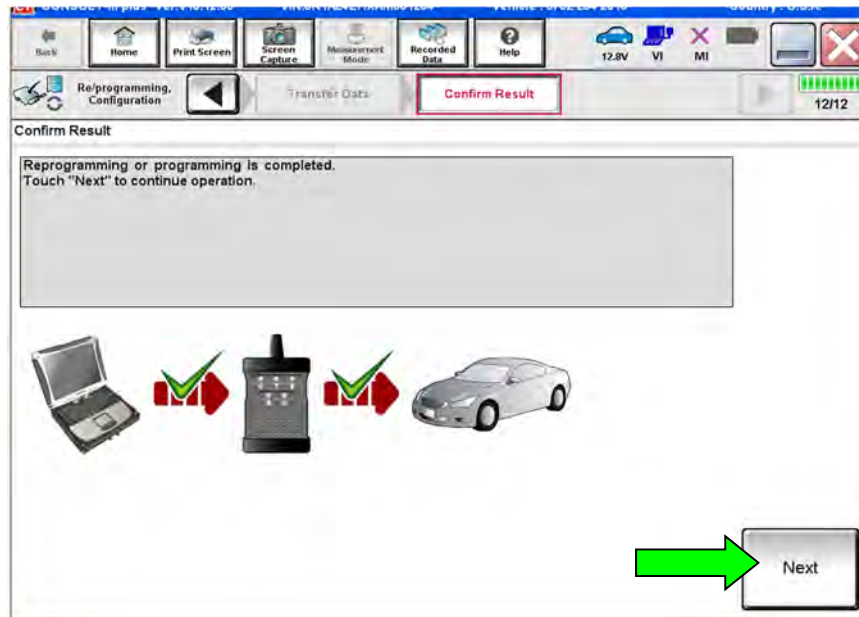

Figure 251
247. When the screen in Figure 251 displays, the reprogramming is complete.
**NOTE:** If the screen in Figure 251 does not display (which indicates reprogramming did not complete), skip to **TCM RECOVERY** on page 126.